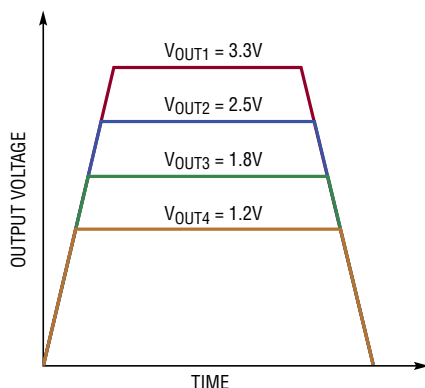

Figure 6. Output Coincident Tracking Waveform
The coincident output tracking can be recognized as a special ratiometric output tracking which the master's output slew rate (MR) is the same as the slave's output slew rate (SR), as waveform shown in Figure 6.
The expression shows that the diode voltage decreases (linearly if I_0 were constant) with increasing temperature and constant diode current. Figure 6 shows a plot of V_D vs Temperature over the operating temperature range of the LTM4644CN.